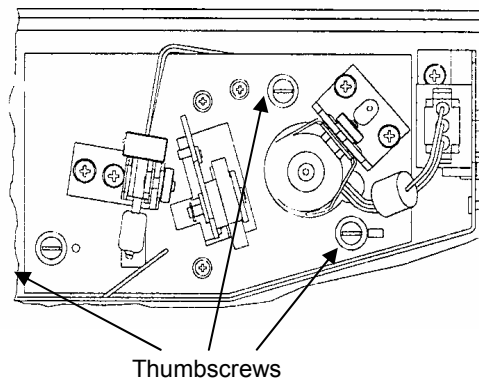

Figure 21 Three thumbscrews
5. Undo the three thumbscrews shown in Figure 21.